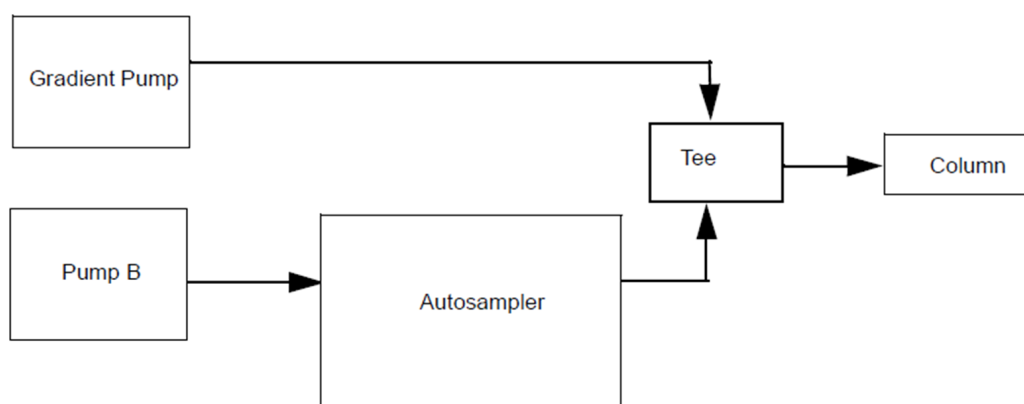

Figure 6. Direct At-Column Dilution with a gradient pump.
- Adding a gradient pump, as shown in Figure 6, is known as direct At-Column Dilution. Only binary gradient systems can be used for direct At-Column Dilution.